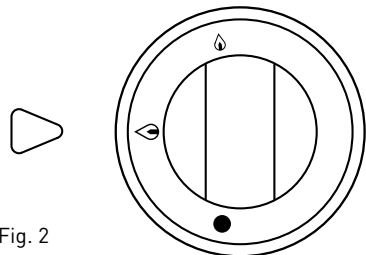

Fig. 2
- Turn the lowest ON/OFF knob of the heater mechanism (3) on a side of the fixed frame (1) to align it with the "large flame" sign (Figure 2).
- Now, the gas is flowing out of the heater. Immediately ignite gas (2), hold for 10-15 seconds and release the knob in this position.